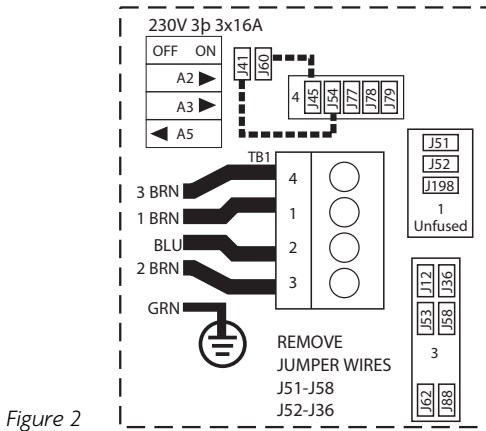

Figure 2
### OPTIONAL HOOKUP – 3 SERVICE (Figure 2)
2. Only reinstall jumper wires as indicated by dotted lines in Figure 2.